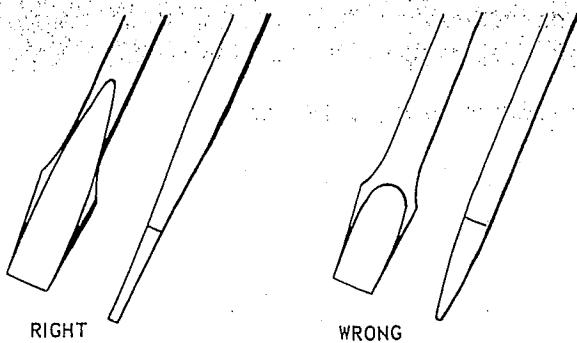

Fig. 4 — Grinding The Screwdriver Blade
1. Grind the tip until it is straight and at right angles to the shank (Fig. 4). The sides should have very little taper and should never come to a sharp point at the tip.